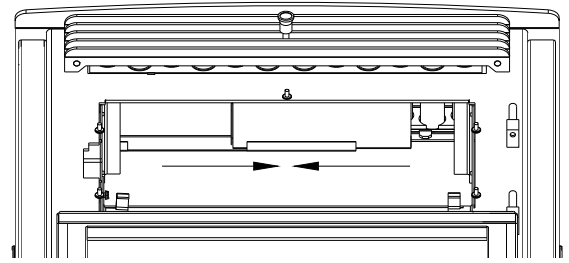

Figure 43
- b. Open the door and remove the baffle from the firebox. Slide each side of the baffle toward the center to remove(Figure 43). Close the door.
- b. **Baffle:** Remove the baffle and scrape off ashes. Slide both sides toward the center to remove the baffle(Figure 43) Use a vacuum is necessary. In some cases, you will need to remove creosote on the baffle, which can accumulate rapidly under certain conditions. A small wire brush can be used. It is important to remove this creosote because it is highly combustible and could cause premature corrosion.